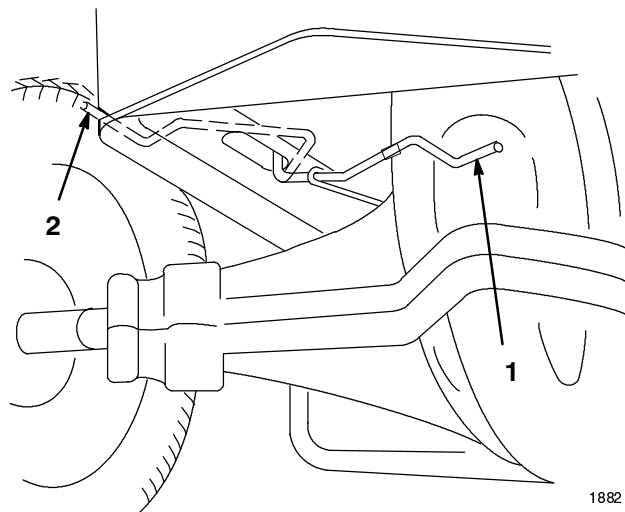

Figure 4
2. Place the drive control in the "Push" position (Fig. 4).
3. Run engine at a low idle and move traction control pedal forward for five (5) seconds then reverse for five (5) seconds. Repeat three (3) times.
4. Place the drive control in the "Operate" position (Fig. 4). Drive the tractor forward then reverse approximately five (5) feet. Repeat three (3) times.